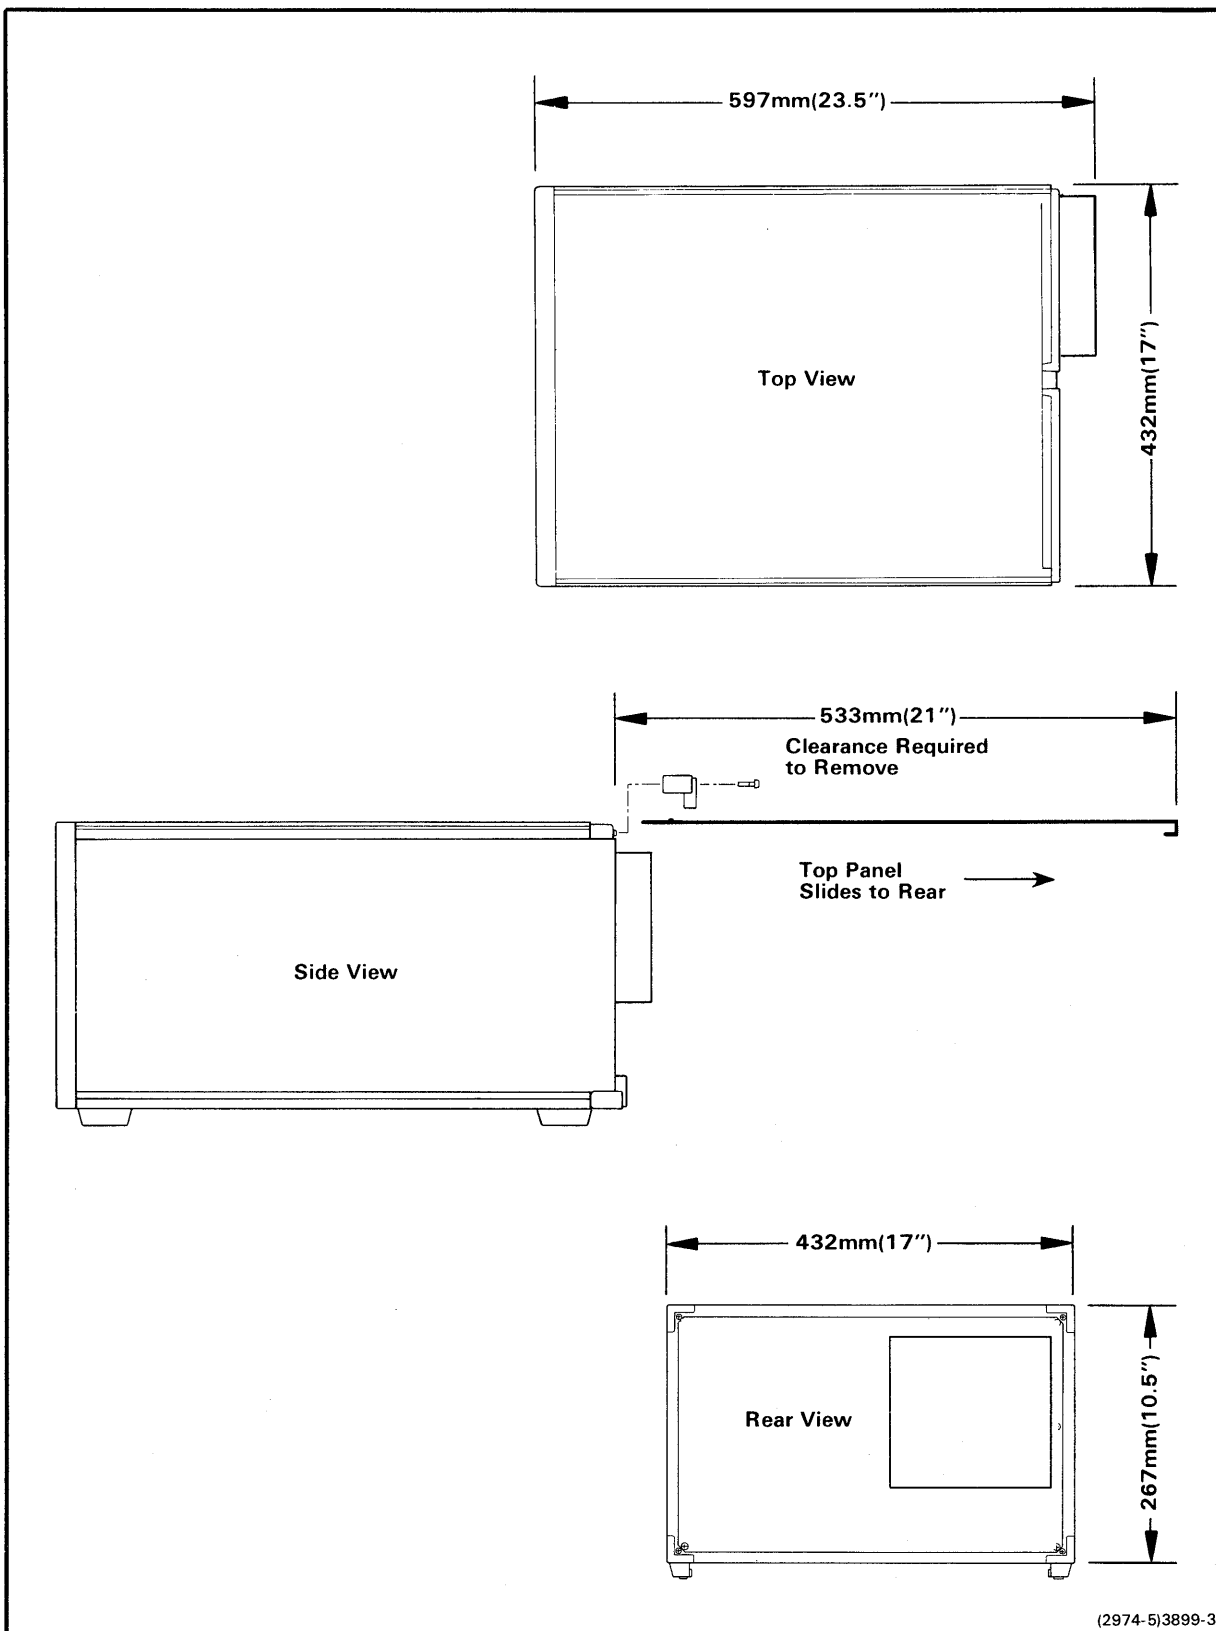
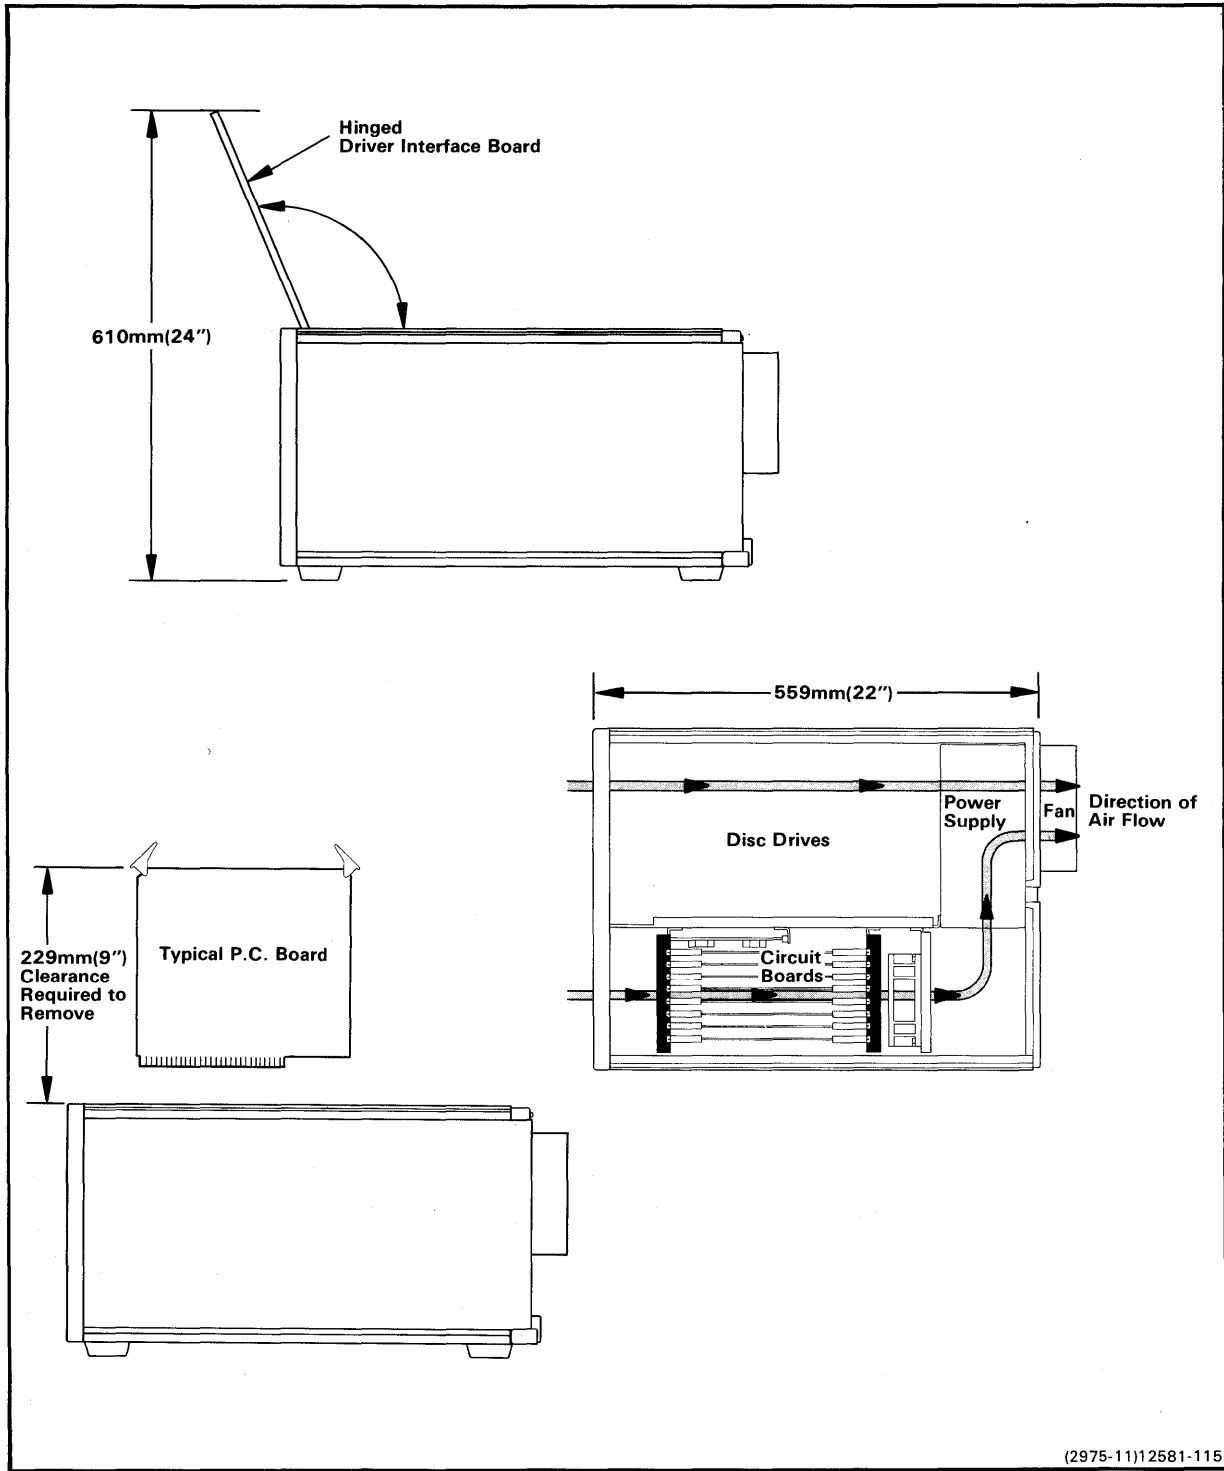

Fig. 18-1. 8560 Dimensions.
Fig. 18-2. Circuit board clearance requirements.
- You will want to gain access to the inside of the unit, so make sure adequate space is available behind and to the sides of the unit for removing the top cover (unit should be rotated 180 degrees when removing the top cover). Figure 18-1 shows the 8560 dimensions. Figure 18-2 shows the required circuit board clearances. boards.